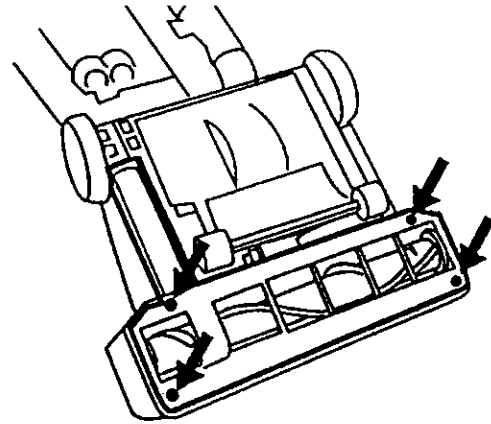

Fig. 1
The WindTunnel™ series of uprights was first introduced in mid 1997. Four deep wine colored models comprised the line and all were similar in overall appearance like the one in Figure 1.
1. Remove 4 screws and lift off bottom plate (Fig. 1).